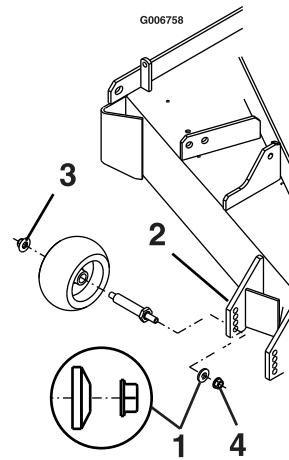

Figure 19
8. Torque the 3/8-16 whizlock nut to 30-35 ft-lb (41-47 N-m) (Figure 19).